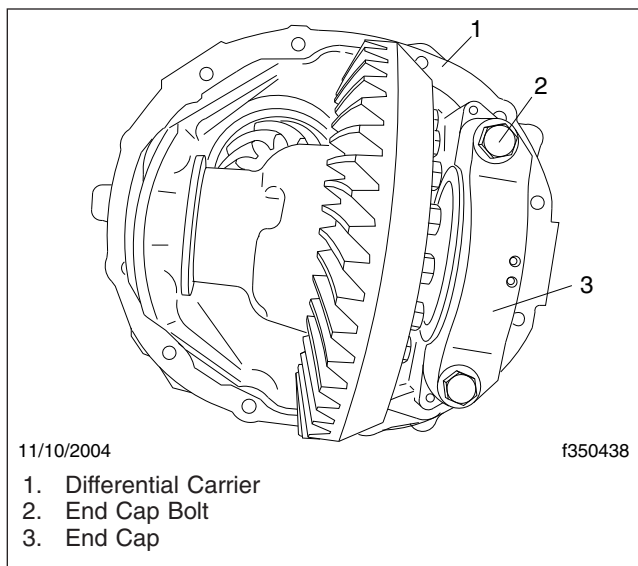

Fig. 2, Carrier End Caps
7. Install the end caps at the sides of the carrier into the corresponding slots in the axle housing. See Fig. 2.